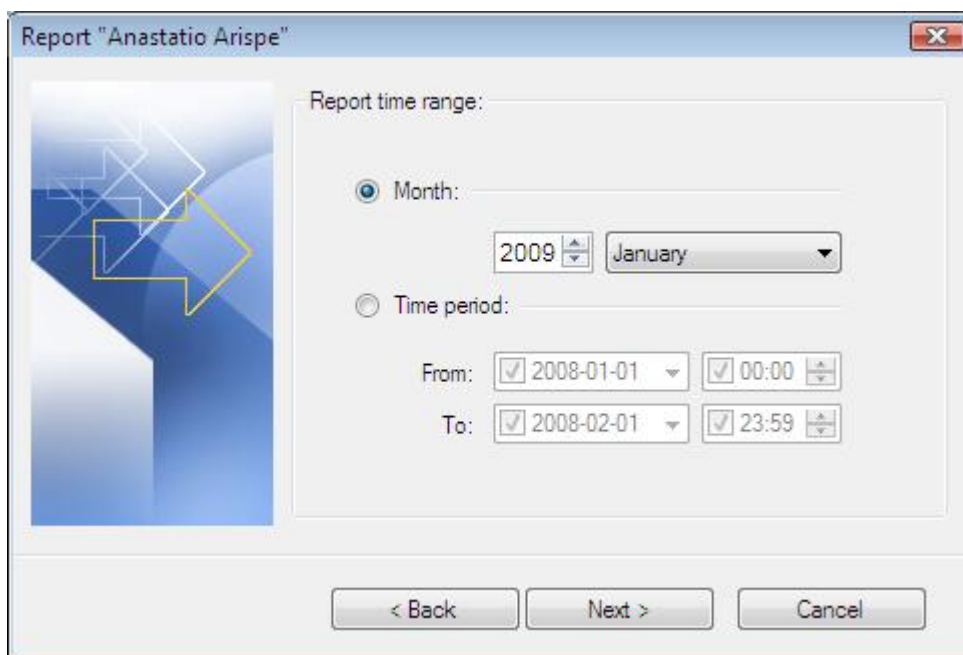

Figure 25. Selecting time range for generating selected reports
Step 2. Choose period, for which the reports selected are to be prepared (Figure 25).